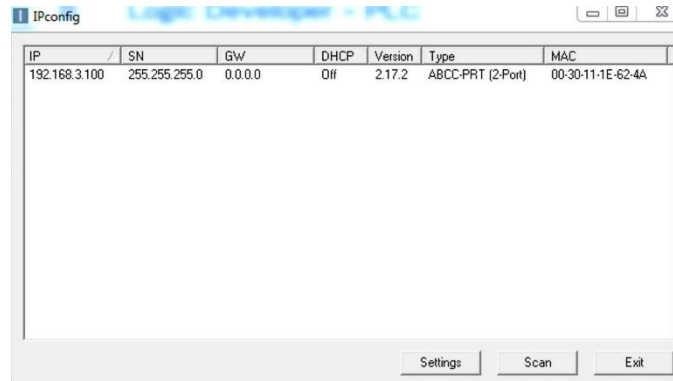

Figure 35: List of Discovered Devices on PROFINET Network
- 6) Click on the row (Figure 35) representing the drive to which a Device Name is to be assigned.